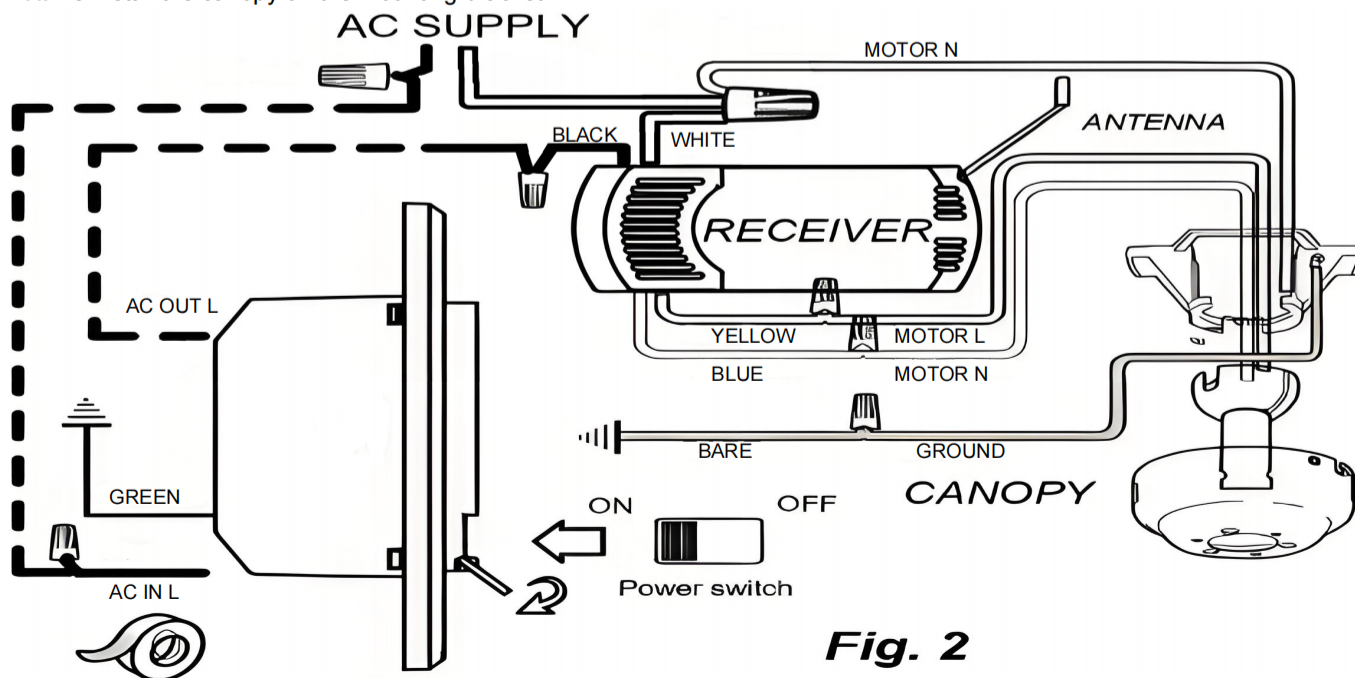

Fig. 2
- F.** Using the wire connectors supplied, make wiring connections as follows: (Figure 2)
Remove wall plate, disconnect and remove the toggle switch from wall outlet box. Using the wire connectors provided, make the electrical connections to the wall control as shown in Figure 2.